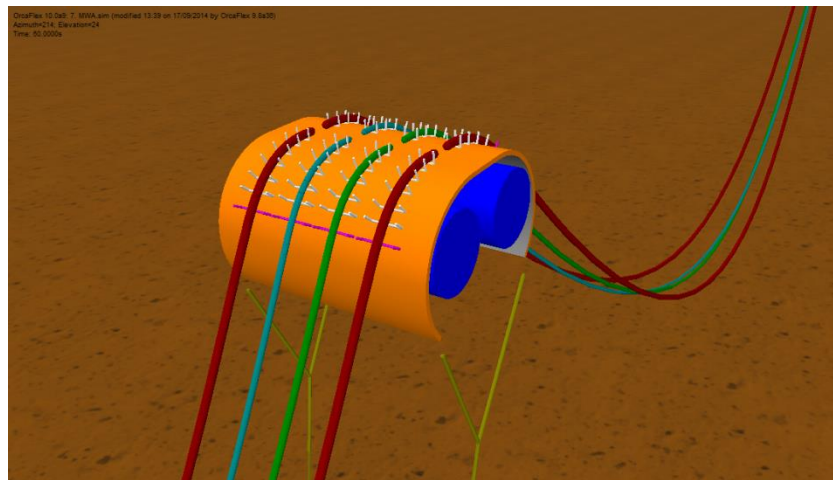

Figure 6-2: Supports Used to Model Mid Water Arch Gutters
- Midwater arch gutters (**Figure 6-2**)